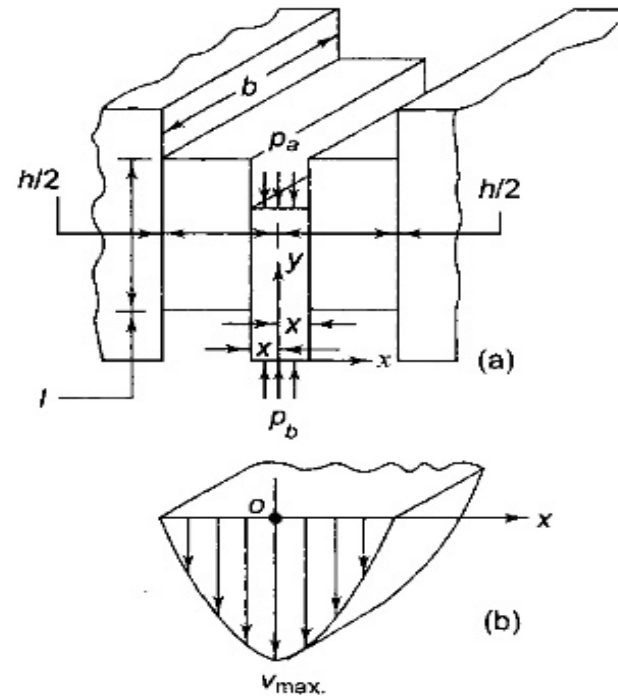

Fig 1: (a)Viscous flow through Rectangular slot (b) Velocity distribution
- The flow of lubricating oil through a rectangular slot is shown in Fig.1:
The velocity distribution along x-axis is parabolic as shown in Fig.1(b). The maximum velocity at the centre ($x=0$) is given by $v_{\max} = \frac{\Delta p h^2}{8\mu l}$